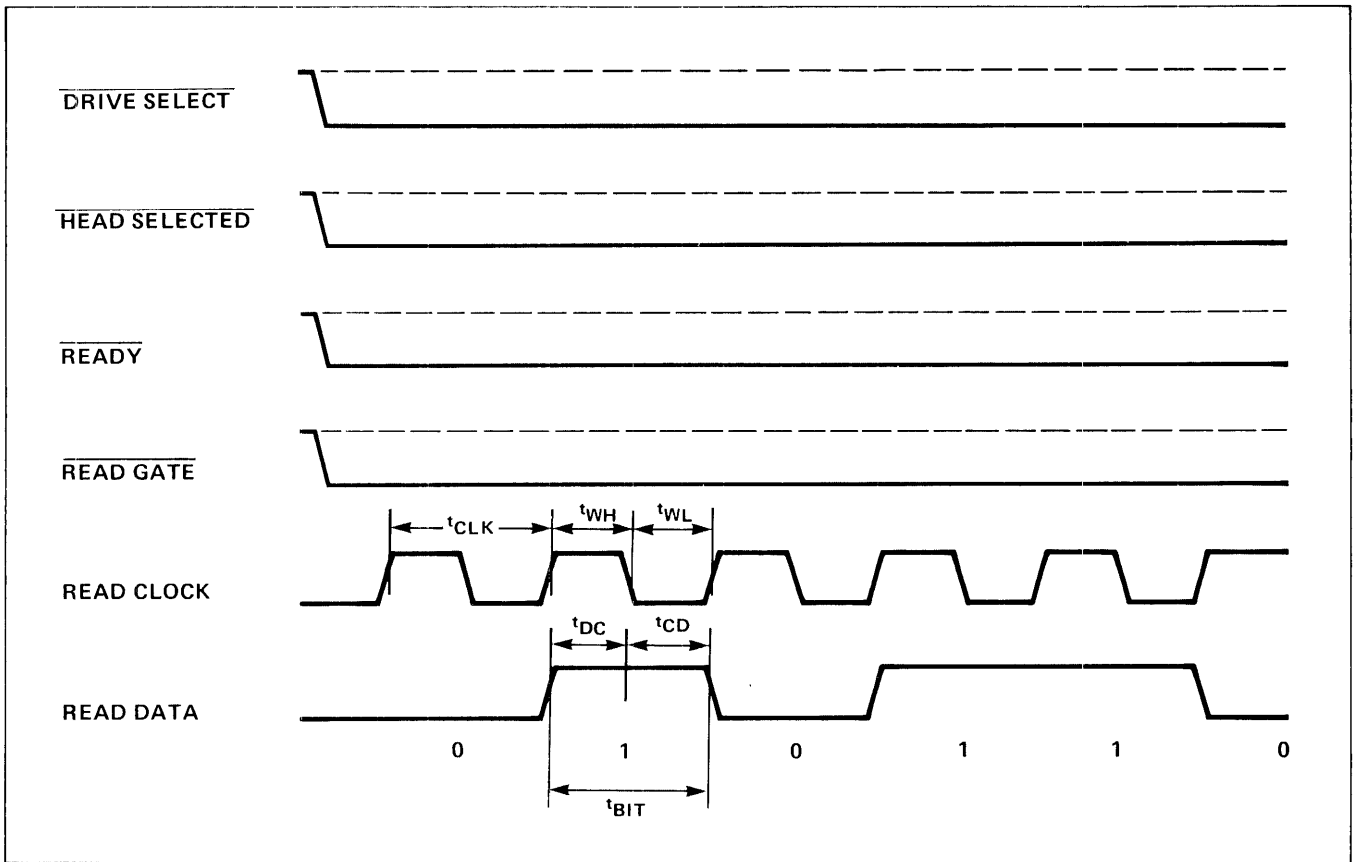

Figure 4-20. READ DATA and READ CLOCK Timing
6. *READ DATA and READ CLOCK Timing* READ DATA and READ CLOCK timing is shown in Figure 4-20. The AC characteristics are listed in Table 4-25.